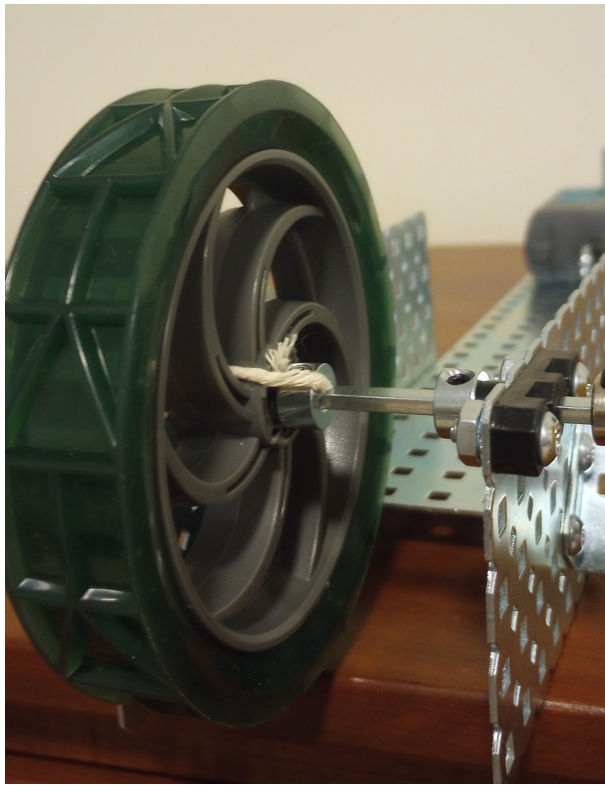

Figure 9. Cable Passed Through Spokes
- Pass the loop at the end of the cable through the spokes of the 4-inch wheel as shown in Figure 9.